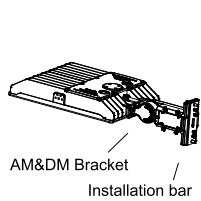

Figure 24
- Step 1: Change the rubber plug on the Installation bar to the AM&DM bracket. (Figure 24)